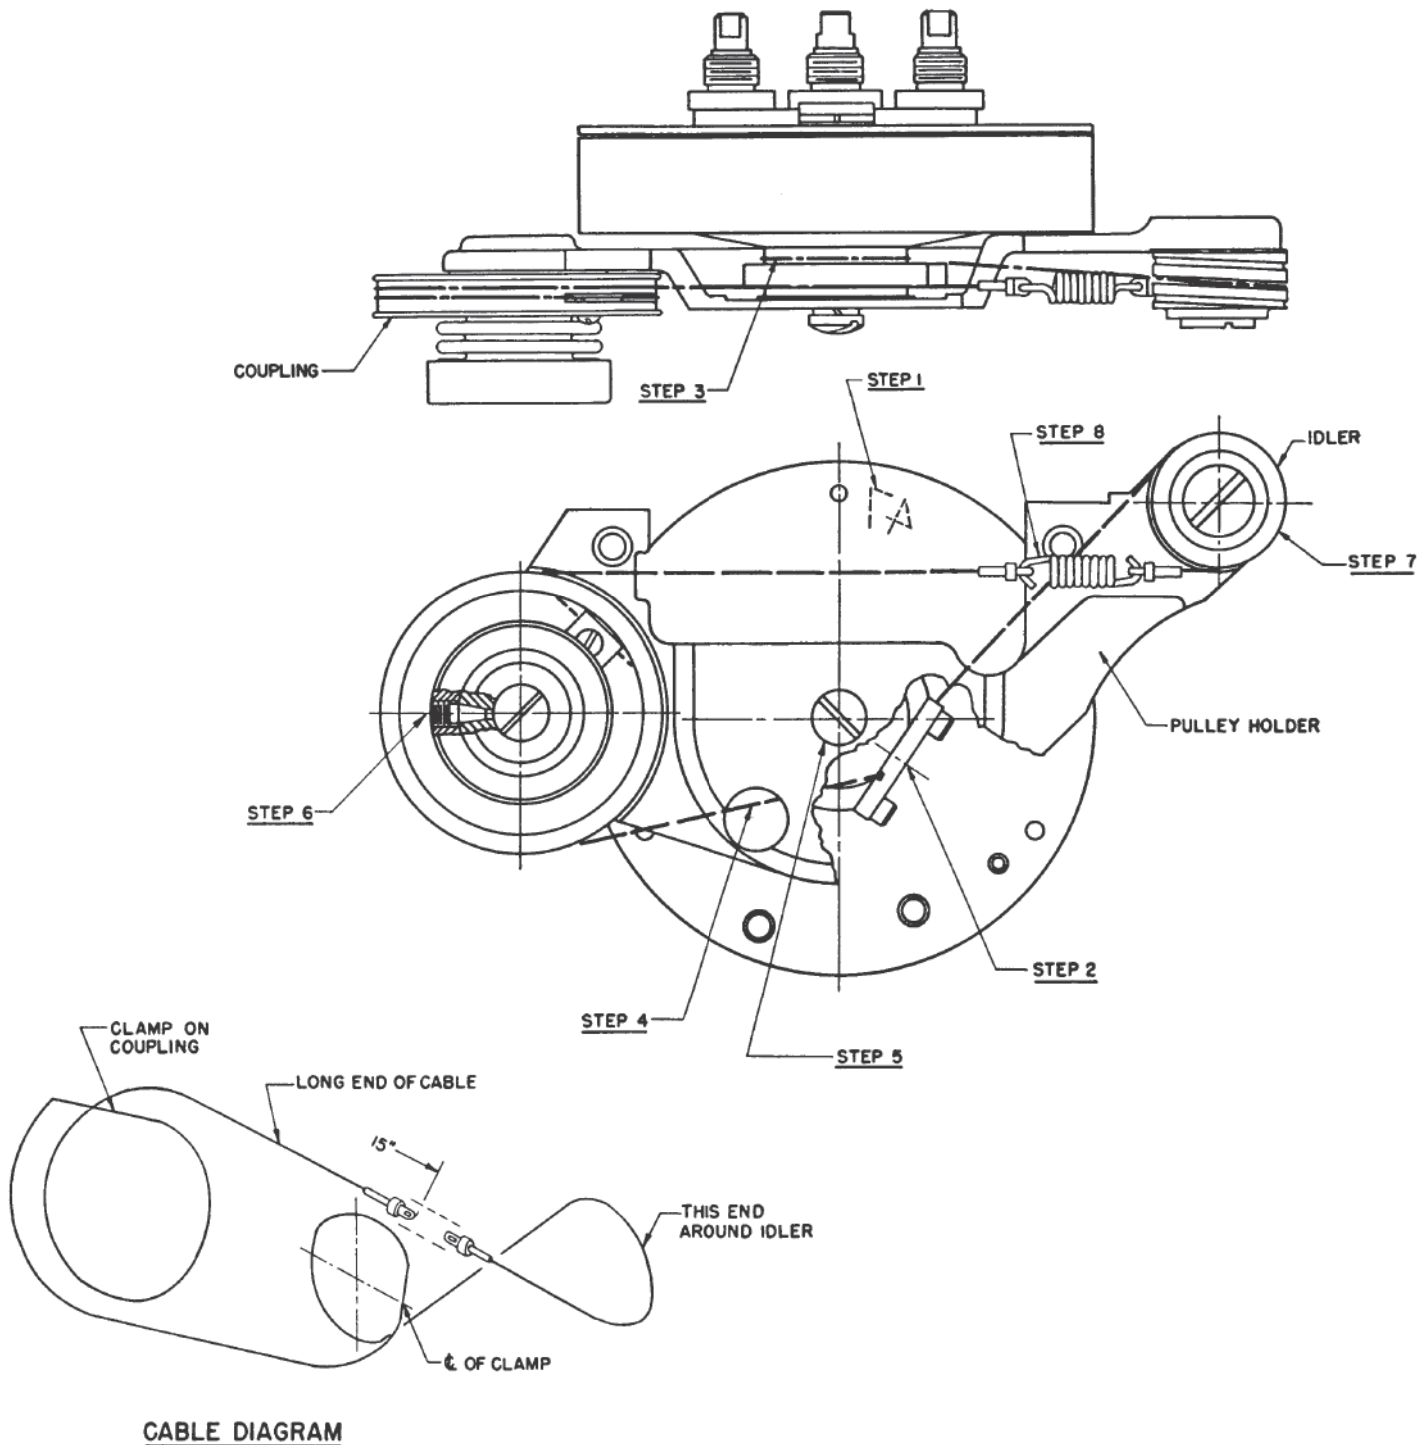

Figure 49. Replacement of dial-drive cable.
g. Replacement of Dial-drive Cable. To replace the dial-drive cable, it is necessary to disengage the panel by removing the IF and RF chassis as described in paragraph 62. The cable replacement procedure is illustrated in figure 49. The steps indicated in figure 49 are keyed to the procedure outlined below. The procedure assumes that a cable, fitted with terminal lugs at each end, is available. (Since a special crimping tool is re-
- (3) Wrap the short end of the cable (end facing small pulley) around the drum assembly, as shown in the cable diagram of figure 49.
- (4) Insert the long end of the cable through the hole in the pulley holder.
- (5) Reattach the pulley holder to the drum assembly.
- (6) Rotate the coupling (large pulley) until the screw hole marked with green paint is pointed outward and is on the horizontal centerline of the dial drive. Now clamp the cable to the coupling and wrap around as shown in the cabling diagram.
- (7) Set the idler pulley (small) in the approximate position shown in figure 49. Wrap the cable around the idler pulley as shown in the cable diagram and in the profile drawing of the assembly (top portion of figure 49).
- (8) Attach the spring to the two terminal lugs at the ends of the cable.
- (9) Check the assembly by rotating the dial toward the high-frequency end, and then back. Make sure that there is no scraping, binding, or slipping and that the dial tunes properly over the entire range.